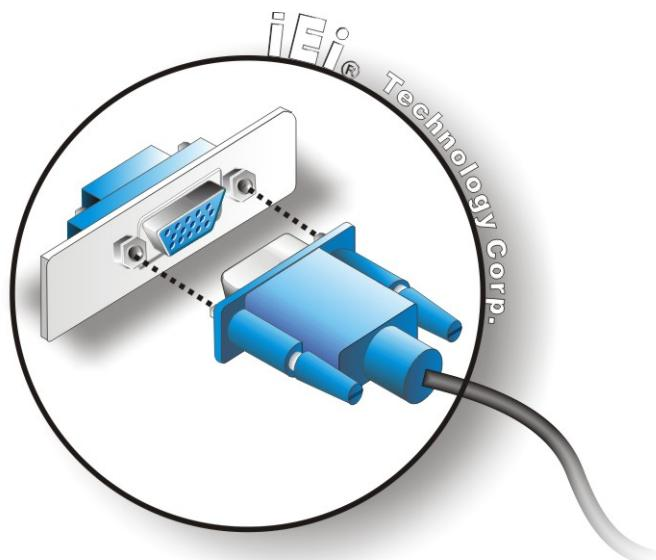

Figure 5-20: VGA Connector
Step 3: Insert the VGA connector. Once the connectors are properly aligned with the insert the male connector from the VGA screen into the female connector on the KINO-690S1. See Figure 5-20.